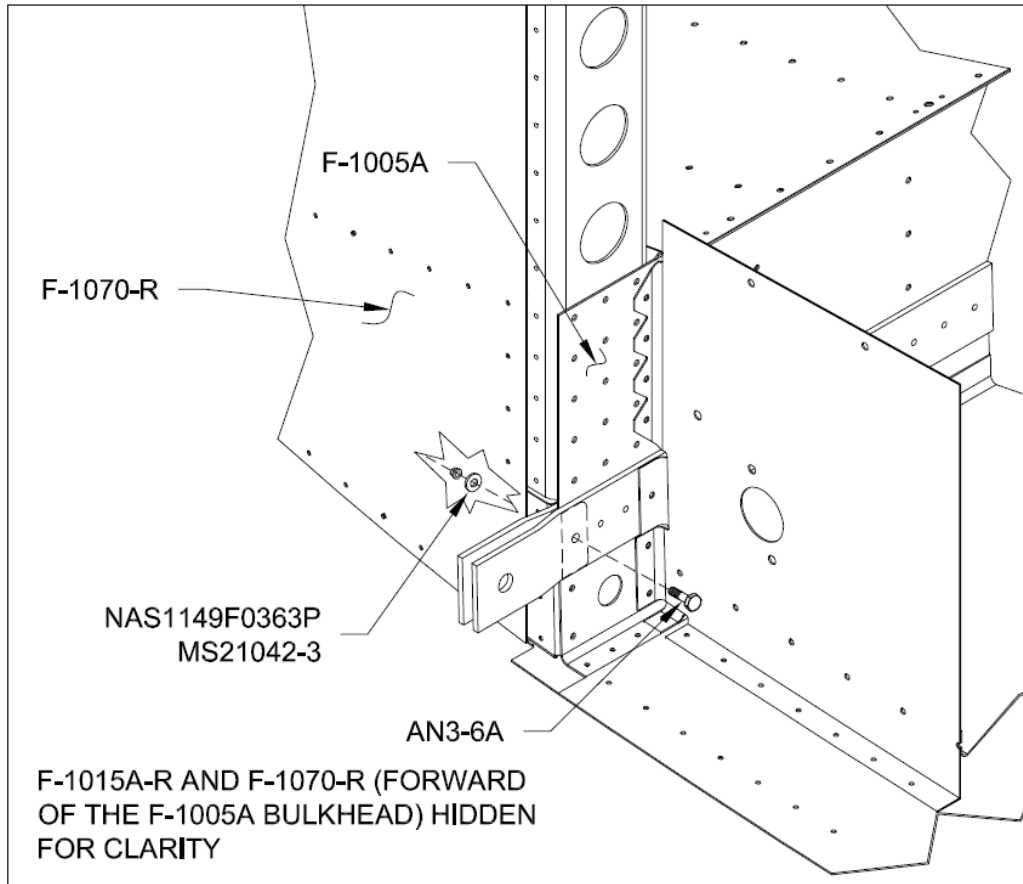

FIGURE 5: INSTALLING HARDWARE
Step 15: Install the hardware shown in Figure 5.